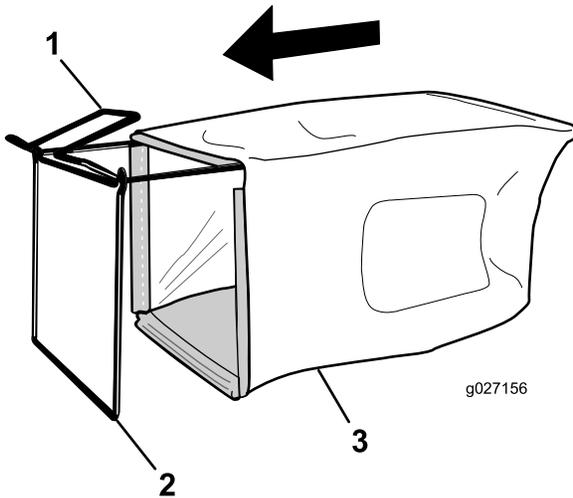

Figure 11
1. Slip the grass bag over the frame as shown in Figure 11.
Note: Do not slip the bag over the handle (Figure 11).